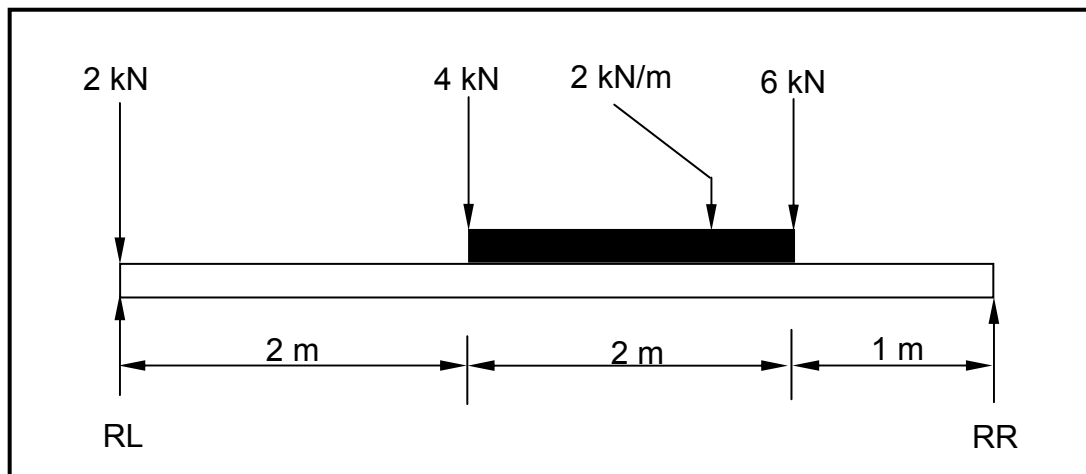

FIGURE 5.3
5.3 FIGURE 5.3 shows a beam with THREE point loads and ONE uniformly distributed load. Calculate the magnitude of the reaction force at RL by taking moments about RR.